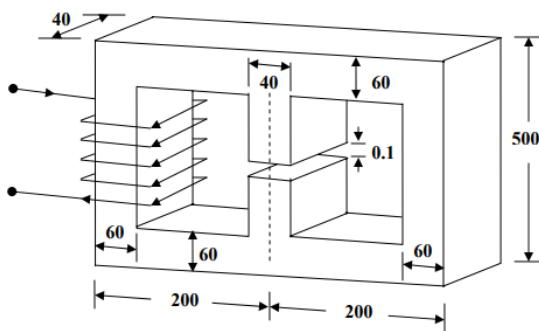
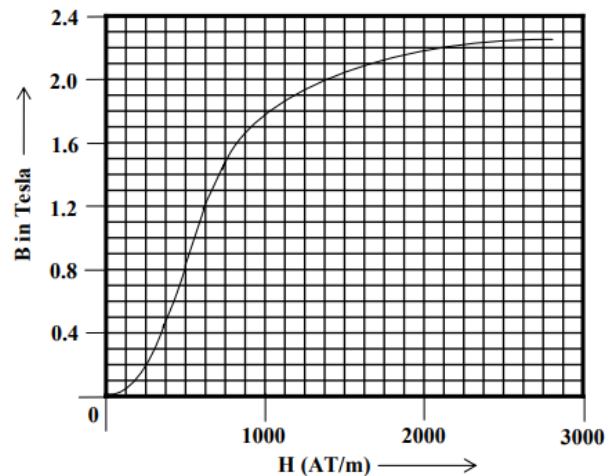

Fig. 1 The magnetic circuit with dimensions.
Fig. 2 The B-H curve of the material.
Q. 1: In the magnetic circuit detailed in figure 1 with all dimensions in mm, calculate the required current to be passed in the coil having 200 turns in order to establish a flux of 1.28 mWb in the air gap. Permeability of air may be taken as, $\mu_0 = 4\pi \times 10^{-7}$ H/m. The B-H curve of the material is given here in figure 2.